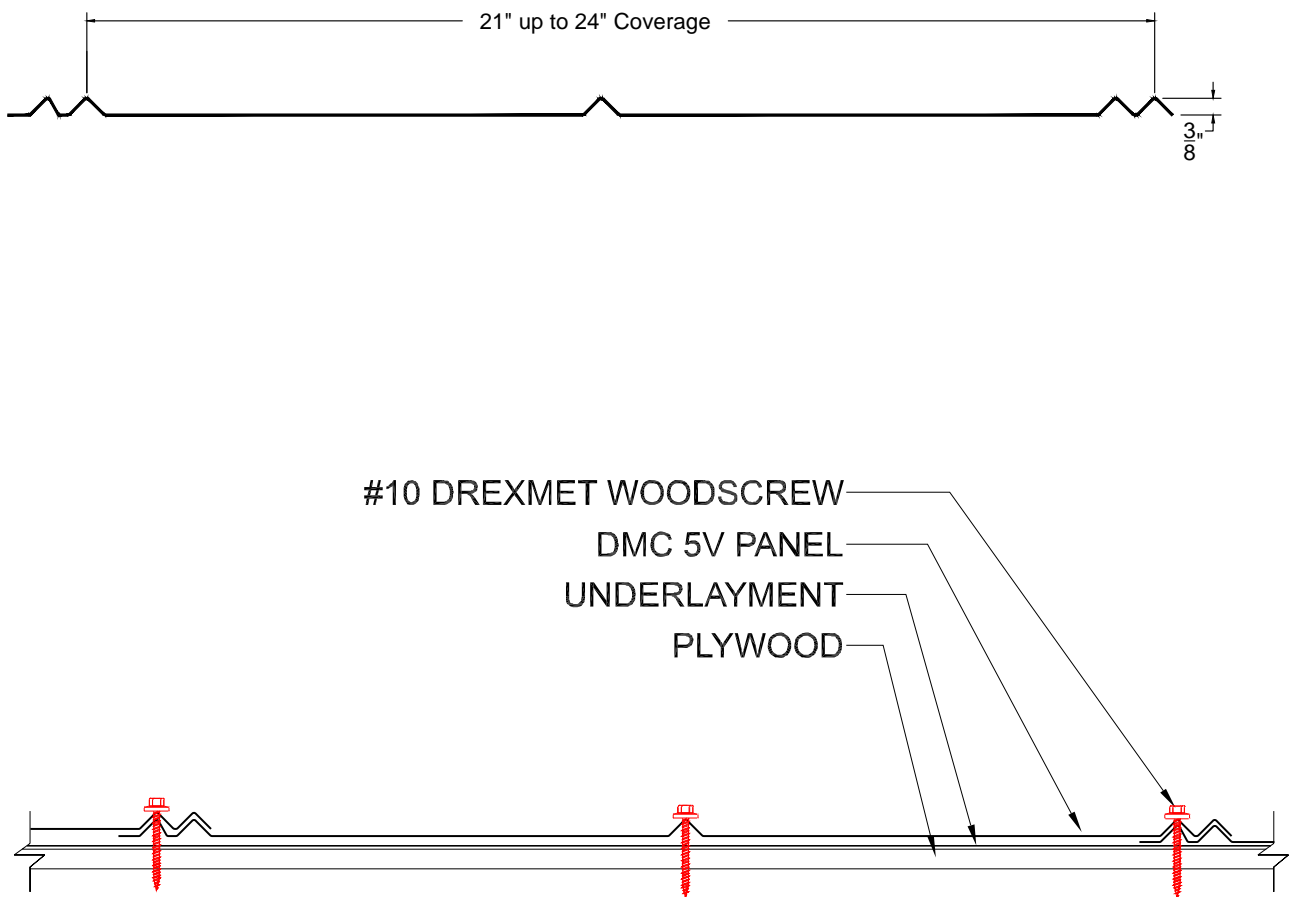

Figure 1. DMC 5-V Metal Roofing Panel
This evaluation report is for the DMC 5-V metal roofing panels installed over a plywood deck. The steel metal roofing panels have 21" minimum / 24" maximum coverage. The metal roofing panels have five (5) v-shaped ribs, two (2) at each end and one (1) at the center. The ribs are 3/8" in height. The metal roofing panels are manufactured from minimum 26-Gauge Galvalume coated steel. Refer to Figure 1 for an illustration of the DMC 5-V metal roofing panel.
Attachment of Metal Roof Panels to the Roof Deck: The metal roofing panels must be secured to the roof framing with minimum No. 10 x 1-1/2" long, hex head screws with a sealing washer. The fasteners must be long enough to ensure a minimum penetration of 1/4" below the roof deck. (Note: If the metal roofing panels are installed over an existing roof covering, then the fastener length must be increased so that the fasteners are long enough to ensure a minimum penetration of 1/4" below the existing plywood roof decking.) The fasteners must be located at the top of the V-shaped ribs. Refer to Figure 1 for an illustration of the fastener locations. A line of fasteners are to be installed beginning 3" from the panel end and spaced as specified in Table 1.